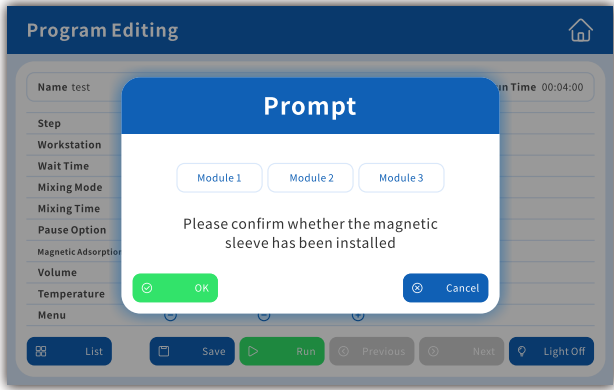

Figure 7
04. When clicking the program run button, a prompt window will pop up stating “Please confirm whether the magnetic sleeve has been installed”. Be sure to check the installation status of the magnetic sleeve. If it is already installed, click the “OK” button in the lower-left corner to start the instrument. If the operation was accidental, click the “Cancel” button in the lower-right corner to exit, and rerun the program after completing the check (Refer to Figure 7 below for details).